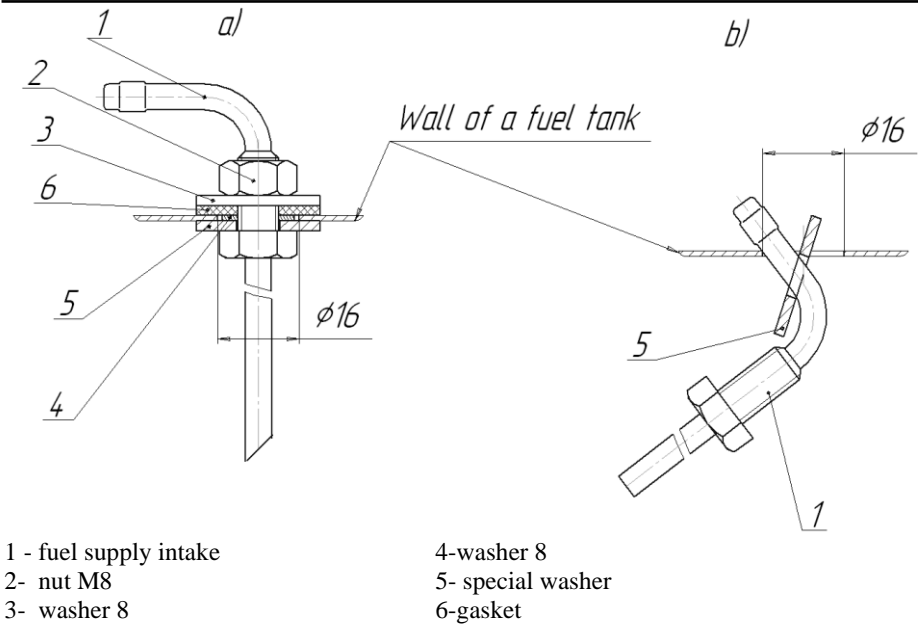

Рис. 7.4 – Fuel supply intake installation in a regular tank of the car
Fuel can enter the heater through a fuel supply intake from the regular fuel tank of the car. Fuel supply intake must be installed into regular fuel tank of the car according to fig. 7.4.
a). Perform installation of special washer with fuel supply intake to the tank inlet according to fig.7.4;